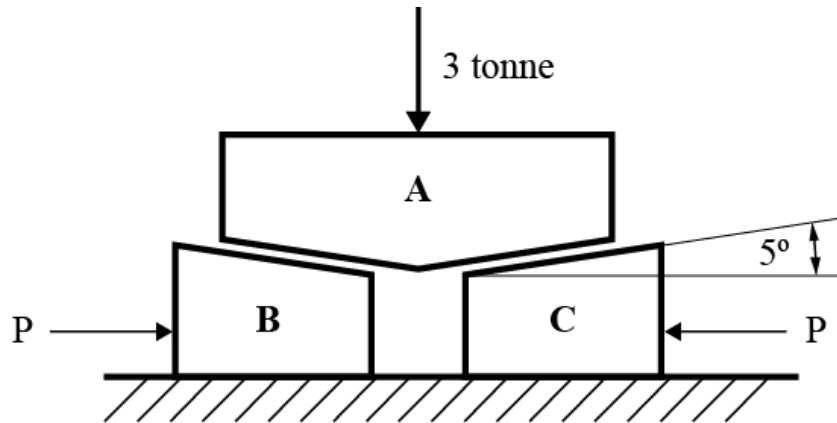

Fig Q4
4. A load of 3 tonne resting on tapered block A is to be raised using two identical wedges B and C as shown in Fig Q4.